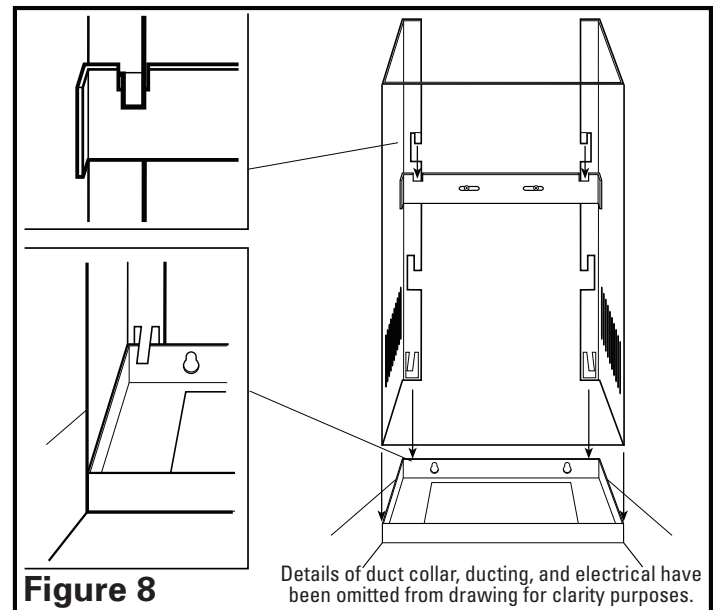

Figure 8
3. Slide chimney in place so top tabs of the chimney are secured in place on the indents of the vertical chimney bracket and the backside of the chimney fits between the hood and the wall with the bottom tabs overlapping the back lip of the hood (**Figure 8**).